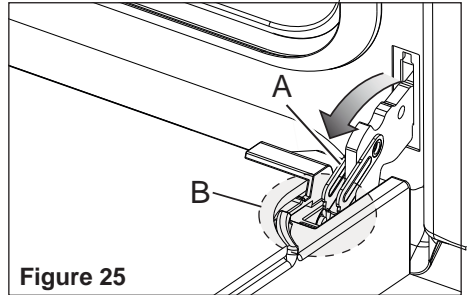

Figure 25
- Open the lever "A" completely on the left and right hinges (fig. 25).